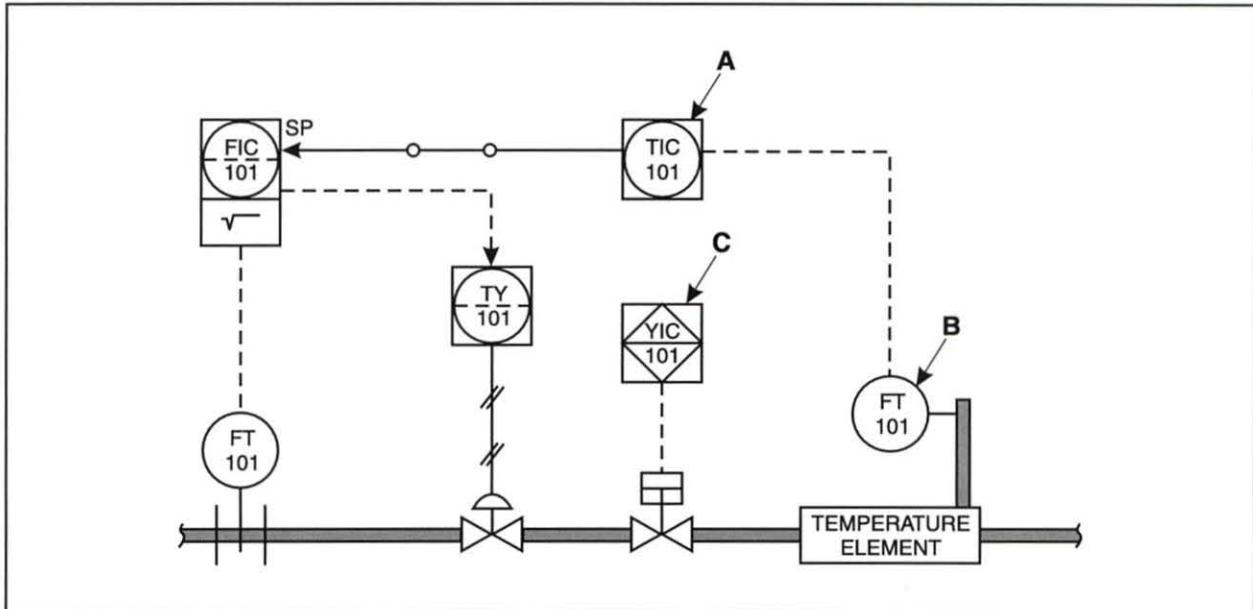

Figure 25. P&ID
6. Determine the type of device indicated by each of the following tags indicated in figure 25.